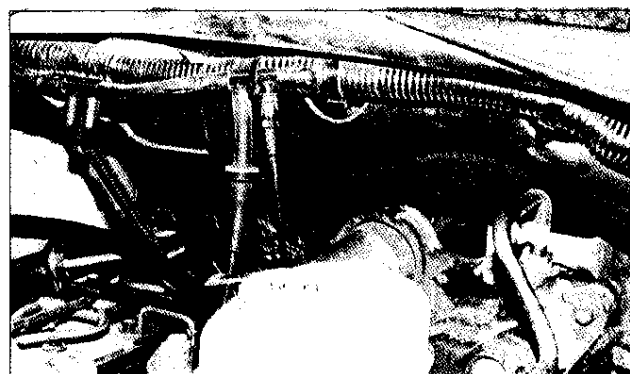
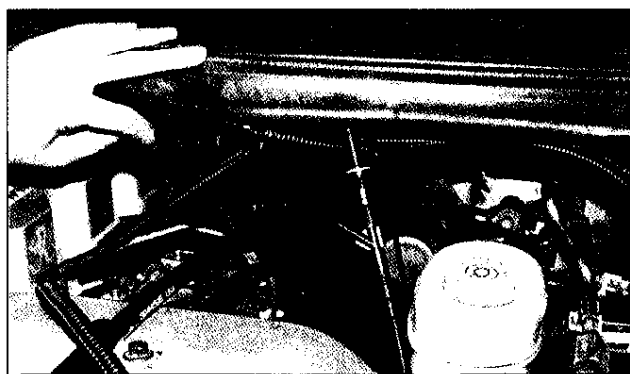

Fig. 12
Fig. 13
- a. Locate the 1/4" plastic vacuum line from the vacuum pump to the vacuum harness (see Fig. 12).
- b. Disconnect the vacuum line from the vacuum harness below the check valve (arrow, Fig. 12). Attach the supplied 1/4" x 11/2" hose to the plastic vacuum line. Insert the supplied "Y" connector into the 1/4" x 1 1/2" hose (Fig. 13). Attach the Y connector to the vehicle vacuum harness. Attach the supplied 1/4" x 6" Vacuum hose to the remaining end of the Y connector.